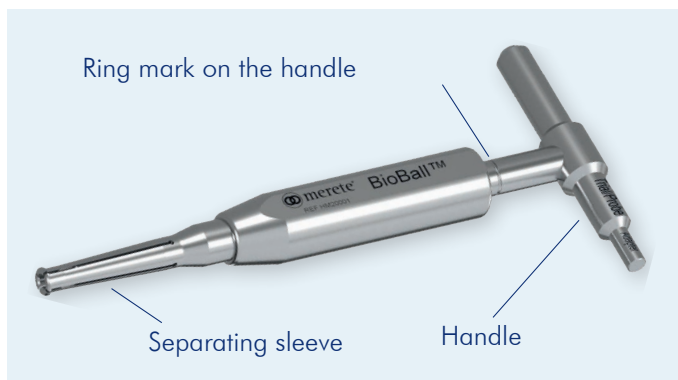

Figure 26 Use of Adapter Extractor
- Screw out the handle to the ring mark (Fig. 26).